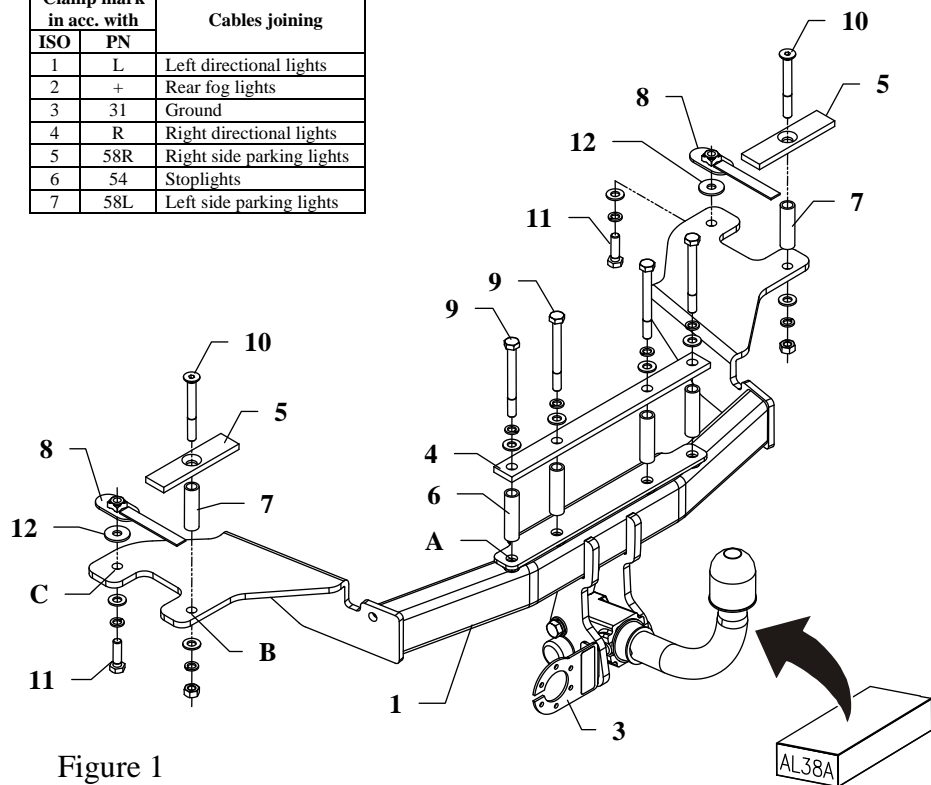

Figure 1
- Put main bar of the towbar (pos. 1) to chassis in this way so holes A agree with holes drilled in metal beam. Inside trunk put distance sleeves (pos. 6), Apply central fish-plate (pos. 4) and fix loosely by bolts M10x100mm (pos. 9) as shown on figure 1.
- From trunk side put distance sleeves (pos. 7) and fish-plates (pos. 5) and bolts M10x90mm (pos. 10). Fix loosely.
- Through existing holes in chassis members put nuts on the jibs (pos. 8) and fix in points C using bolts M10x35mm (pos. 11) as shown on figure 1.